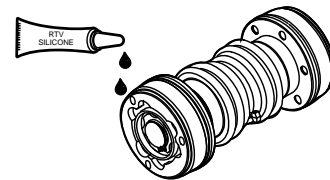

Figure 29. Applying RTF Silicone
3. Apply a thin coat of RVT silicone to mating surfaces of the CV-joint (Figure 29) and left-side gearbox coupler.